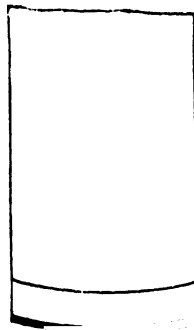

Fig. 68.
**Trying Plane.**—Fig. 68 shows the shape of the cutting iron of the Jack Plane.